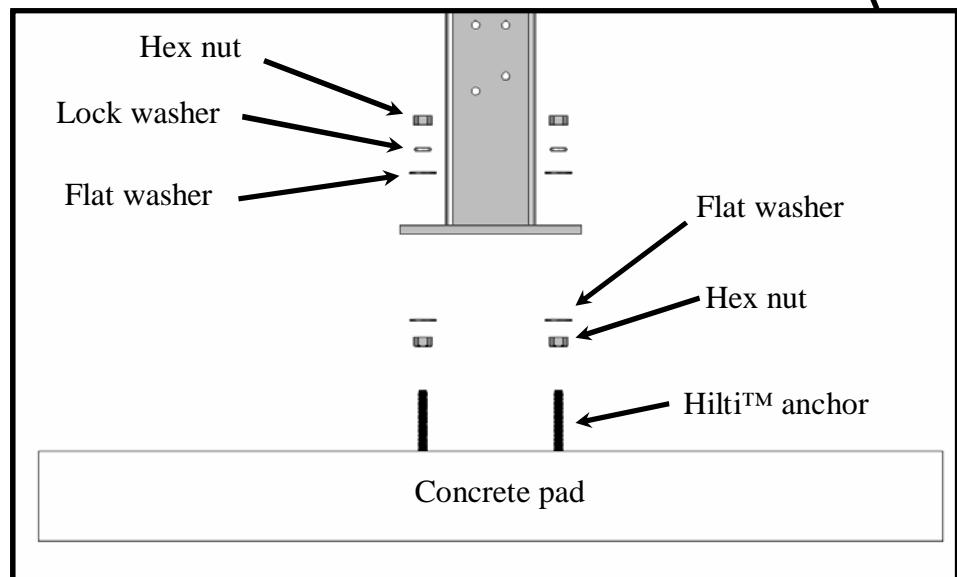

Figure B2
- 1) Install the hex nuts on the Hilti™ anchors as shown in Figure B2.